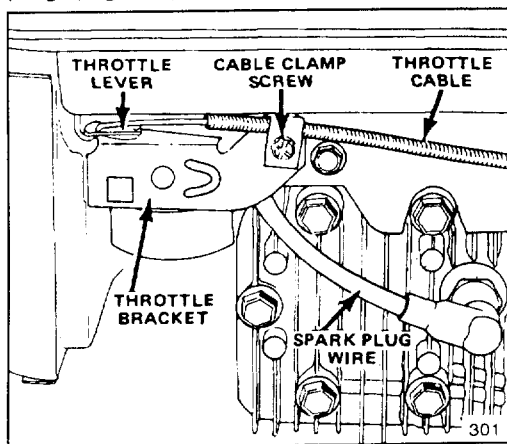
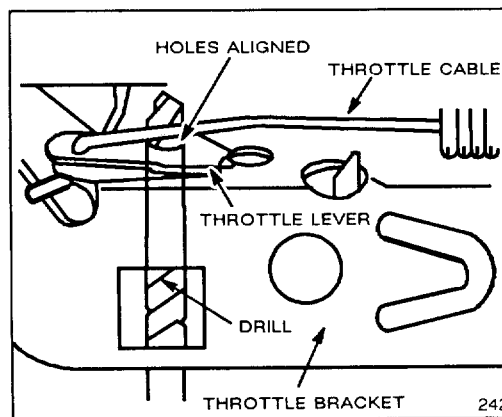

Figure 22
Figure 23
1. Stop engine and pull wire off spark plug (Fig. 22).
3. Loosen cable clamp screw until throttle cable slides (Fig. 22). Align holes in throttle lever and throttle bracket using a .12" (3 mm) dia. pin or a 1/8" dia. drill (Fig. 23). Tighten cable clamp screw to lock adjustment in place.